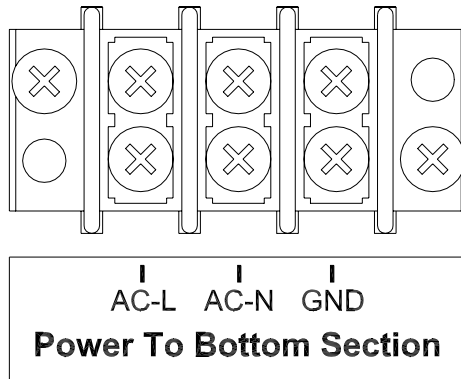

Figure 6 Power to Bottom Section Connections
3. Connect the wires to the terminal block labeled **Power To Bottom Section** according to figure 6.